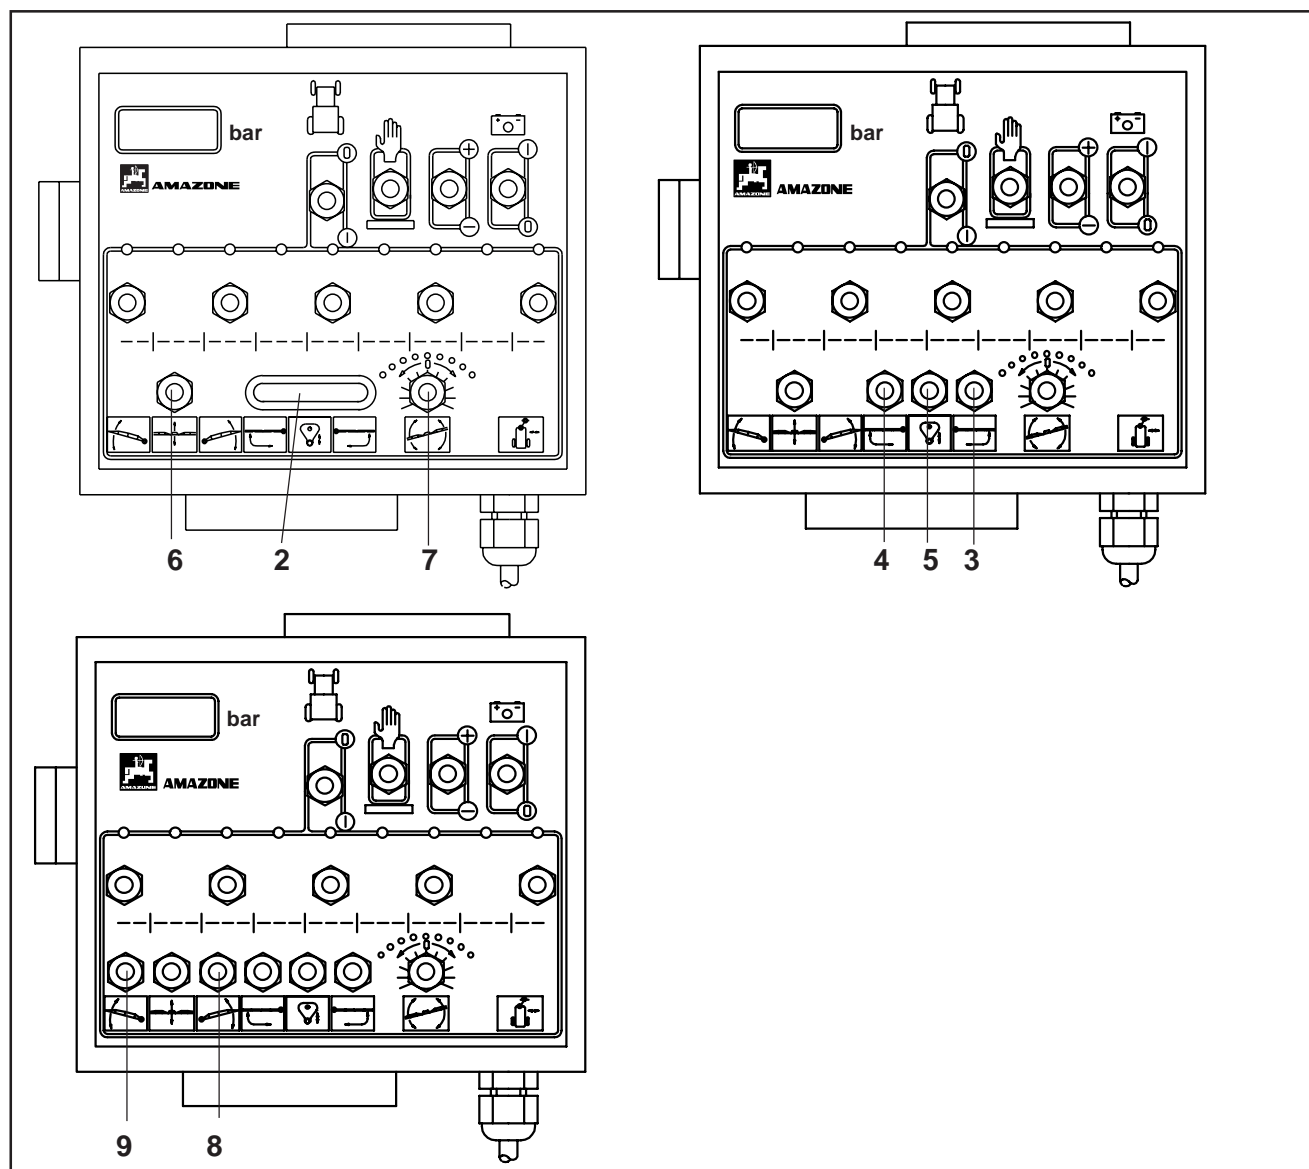

Fig. 10.30
- Hold the keys (Fig. 10.30/ 3 and 10.30/ 4) in position "folding out" (Ausklappen) until the two boom sections are completely folded out. The corresponding hydraulic rams conduct the locking of the boom in operation position.
- Set height of boom by key (Fig. 10.30/ 6) of the hydraulic height adjustment.
- Lift the boom into a medium height by pressing key (Fig. 10.30/ 6).